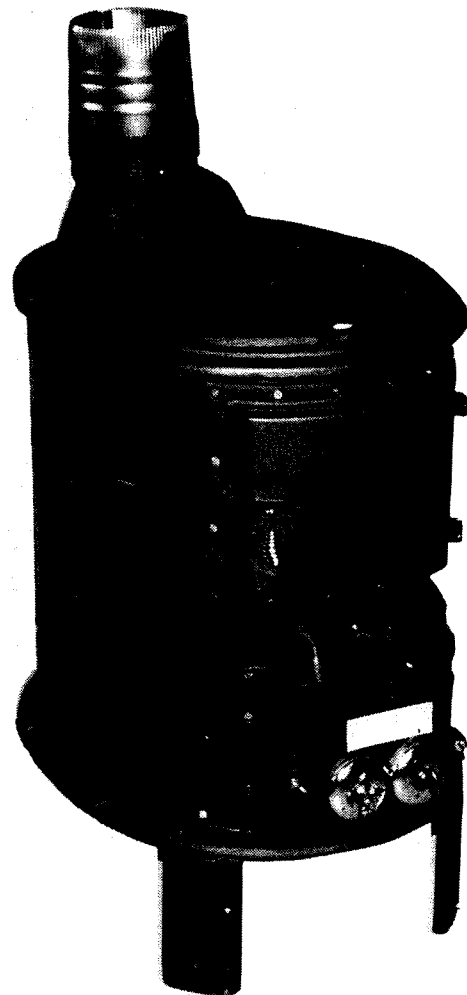

Fig. 69. Majik Automatic Model 122A radiant sheet-metal stove.
2. **Atlanta Stove Works, Inc.** (manufacturer), P.O. Box 5254; Atlanta, GA 30307. Identical to Birmingham Stove and Range Company's Majik Automatic Model 122A. See Fig. 69 for photo.
3. **Birmingham Stove & Range Co.** (manufacturer), P.O. Box 2647, Birmingham, AL 35202. The Majik Automatic Model 122A (Fig. 69) is identical to Atlanta Stove Works' Superautomatic Model 2502. For specifications, refer to that model in Table 8.